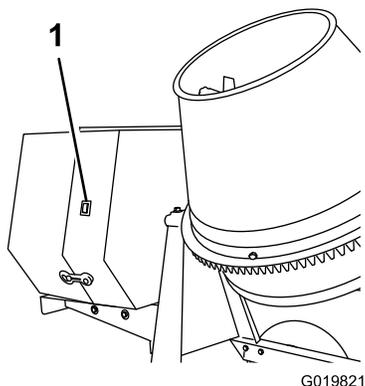

Figure 36
1. On the engine cowl, move the engine switch to the On position (Figure 36).
2. Turn the cowl-mounted engine switch off (Figure 36).
**Important:** If you need to stop the engine immediately, use the engine switch located on the outside of the engine cowl (Figure 36).